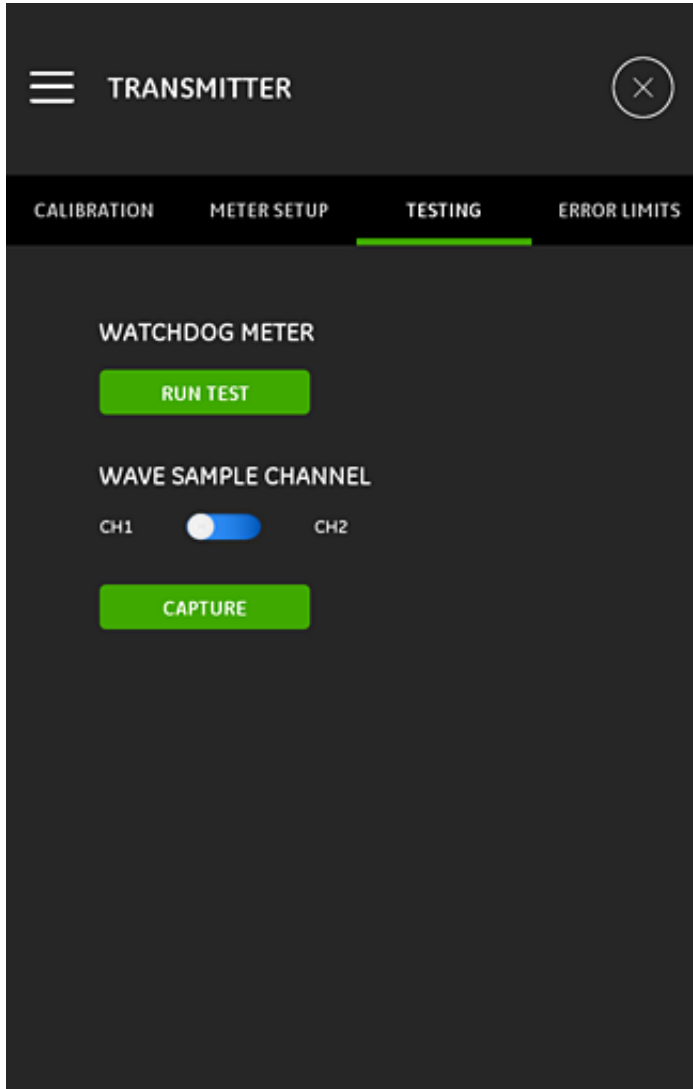

Figure 129: The TESTING menu
The *testing* menu (see *Figure 129* below) is used to ensure that the PT900 is performing properly. The following tests are included:
1. Click the *run test* button in the *testing* menu (see *Figure 129* on page 56).